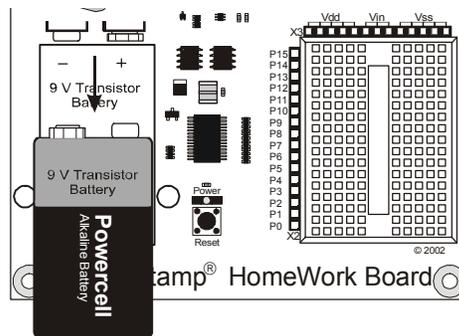

Figure 1-50
- √ If you are using the BASIC Stamp HomeWork Board, disconnect the battery as shown in Figure 1-50.